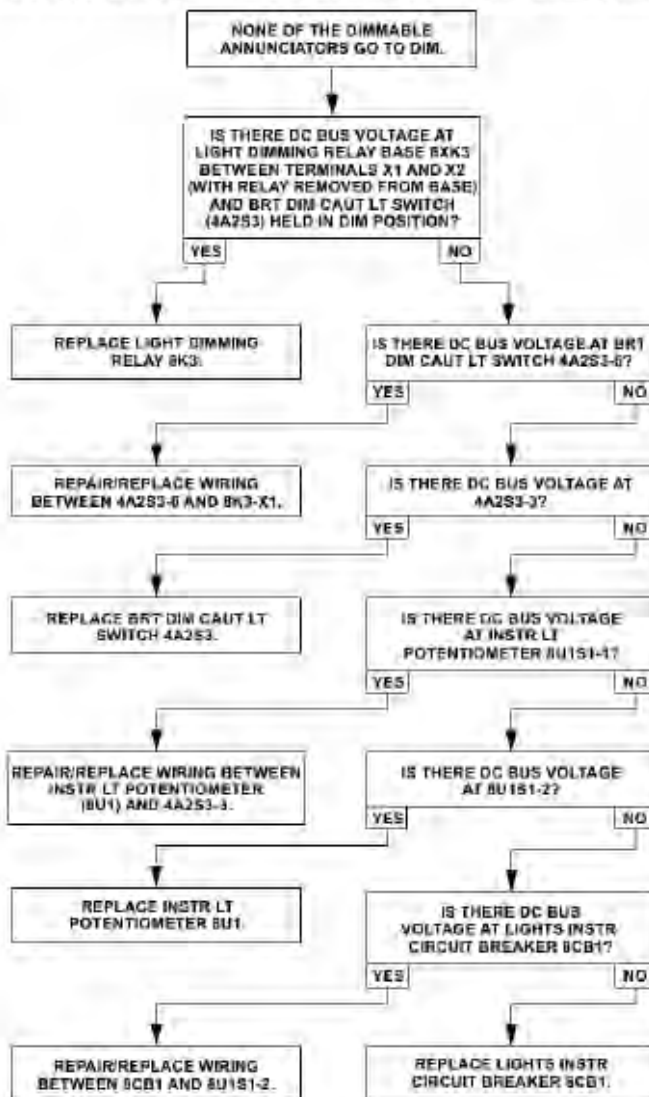

Figure 96-97: Caution/Warning/Advisory Panel Lighting and Dimming – Trouble No. 3
- If none of the dimmable annunciators (positions 2 to 30, 33, and 35) come on dimmed, refer to Trouble No. 3 (Figure 96-97).